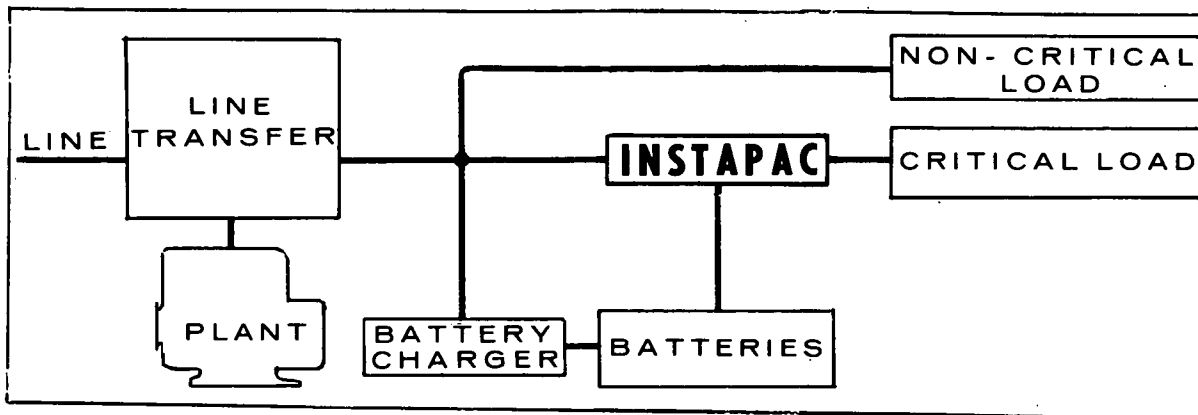
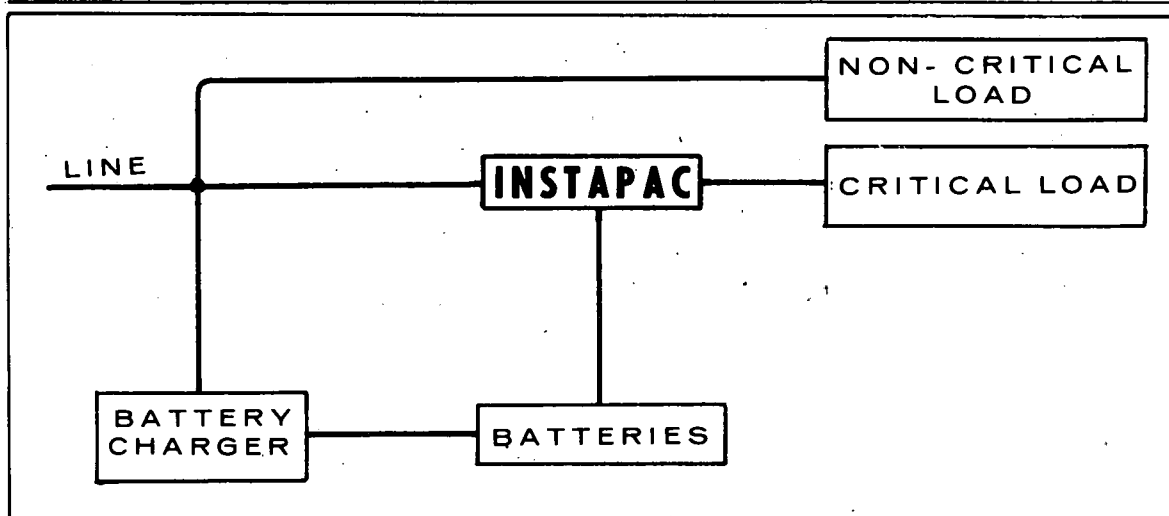

FIG. 1 EMERGENCY USE WITH STANDBY ELECTRIC PLANT
FIG. 2 EMERGENCY POWER USE WITH NO PLANT OR CONTINUOUS POWER SOURCE
2. **EMERGENCY POWER WITH NO PLANT.** Fig. 2 illustrates how Instapac can be used when the commercial power is never off for long periods of time. In this case, an Instapac unit without an emergency plant can be used to supply the critical load power needed. The length of this operating interval is determined by the capacity of the battery used. Instapac models using 24 volt battery rated at 120 Amp/Hrs. will supply full load power for about one hour. Models using 48 volt battery (also rated 120 Amp/Hrs.) will supply full load power for about two hours. Battery capacity is directly proportioned to operating time.
3. **CONTINUOUS POWER SOURCE.** Where even a .017 sec power lapse cannot be tolerated, Instapac can be installed and operated as a continuous power supply (Fig. 1 or Fig. 2). This requires a special Instapac without a start-stop relay and not interchangeable with the standard model. In this operation, the batteries are floated on a battery charger which, in turn, operates from the normal power line or generating plant. Instapac supplies power to the load continuously, eliminating any delay. If batteries, battery charger or Instapac fail, the automatic by-pass relay transfers the load to the line or plant.